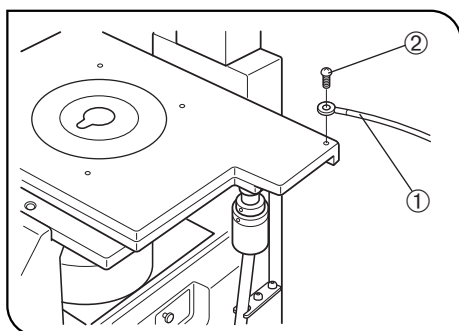

Fig. 18
(Fig. 18)
Prepare a grounding wire ① and one M4 screw ② and attach the grounding wire as shown in Fig. 18.